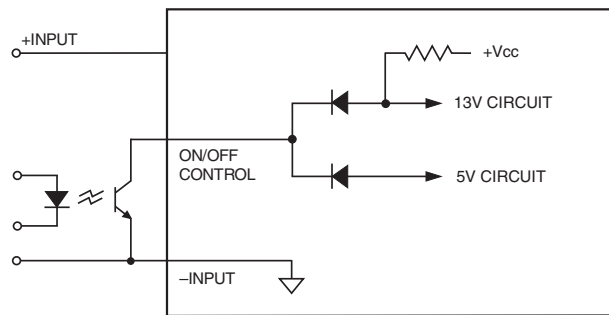

Figure 6. Driving the Negative Polarity On/Off Control Pin (simplified circuit)
**Positive** (“P” suffix) polarity models are enabled when the on/off pin is left open (or is pulled high, applying +3.5V to +15V with respect to -Input) as per Figure 6. Positive-polarity devices are disabled when the on/off pin is pulled low (0 to 1V with respect to -Input).
**Negative** (“N” suffix) polarity devices are off when pin is left open (or pulled high, applying +2.5V to +15V), and on when pin is pulled low (-0.1 to +0.8V) with respect to -Input as shown in Figure 6.